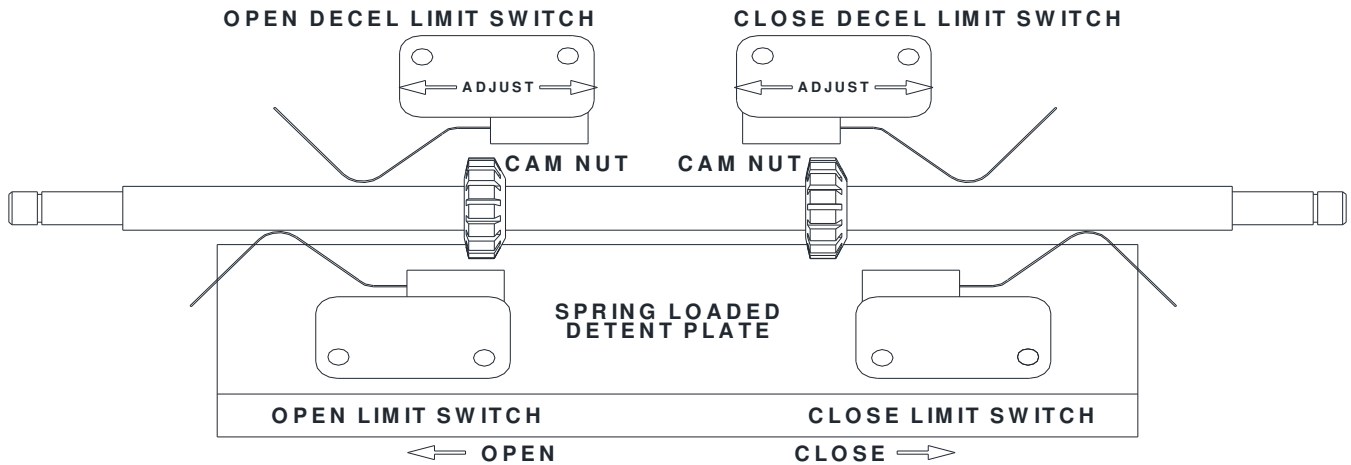

Figure 1 – Limit Switches
4. **Setting Limits:** With the curtain raised/lowered to the approximate mid-point of the opening, open the limit box and identify all parts (See Figure 1).
- b. After curtain is in the desired position, press the spring-loaded detent plate, adjust the limit switch cam nut until the micro switch clicks.(See Figure 1)